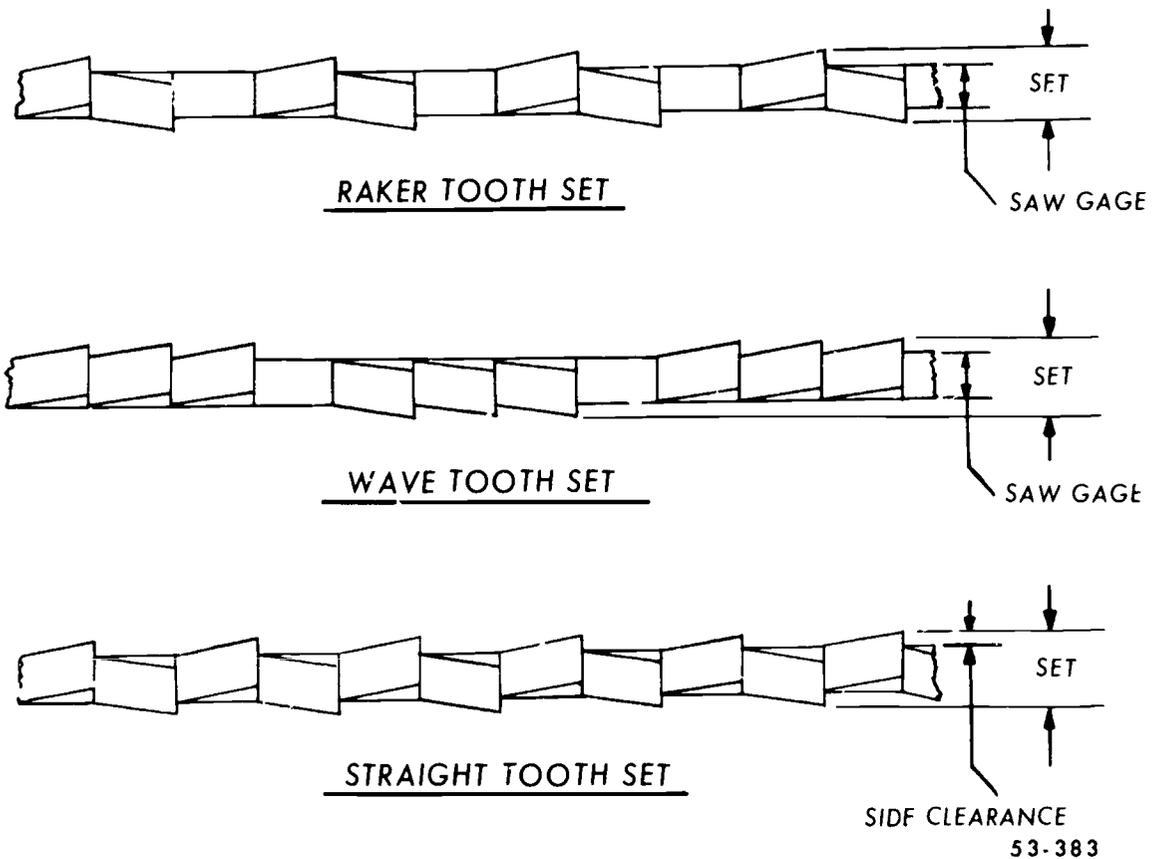

Figure 64. Set patterns
h. *Set pattern.* This is the pattern of the teeth, depending upon the manner in which the teeth are set. There are three set patterns: (1) raker, (2) wave, and (3) straight, as shown in figure 64.